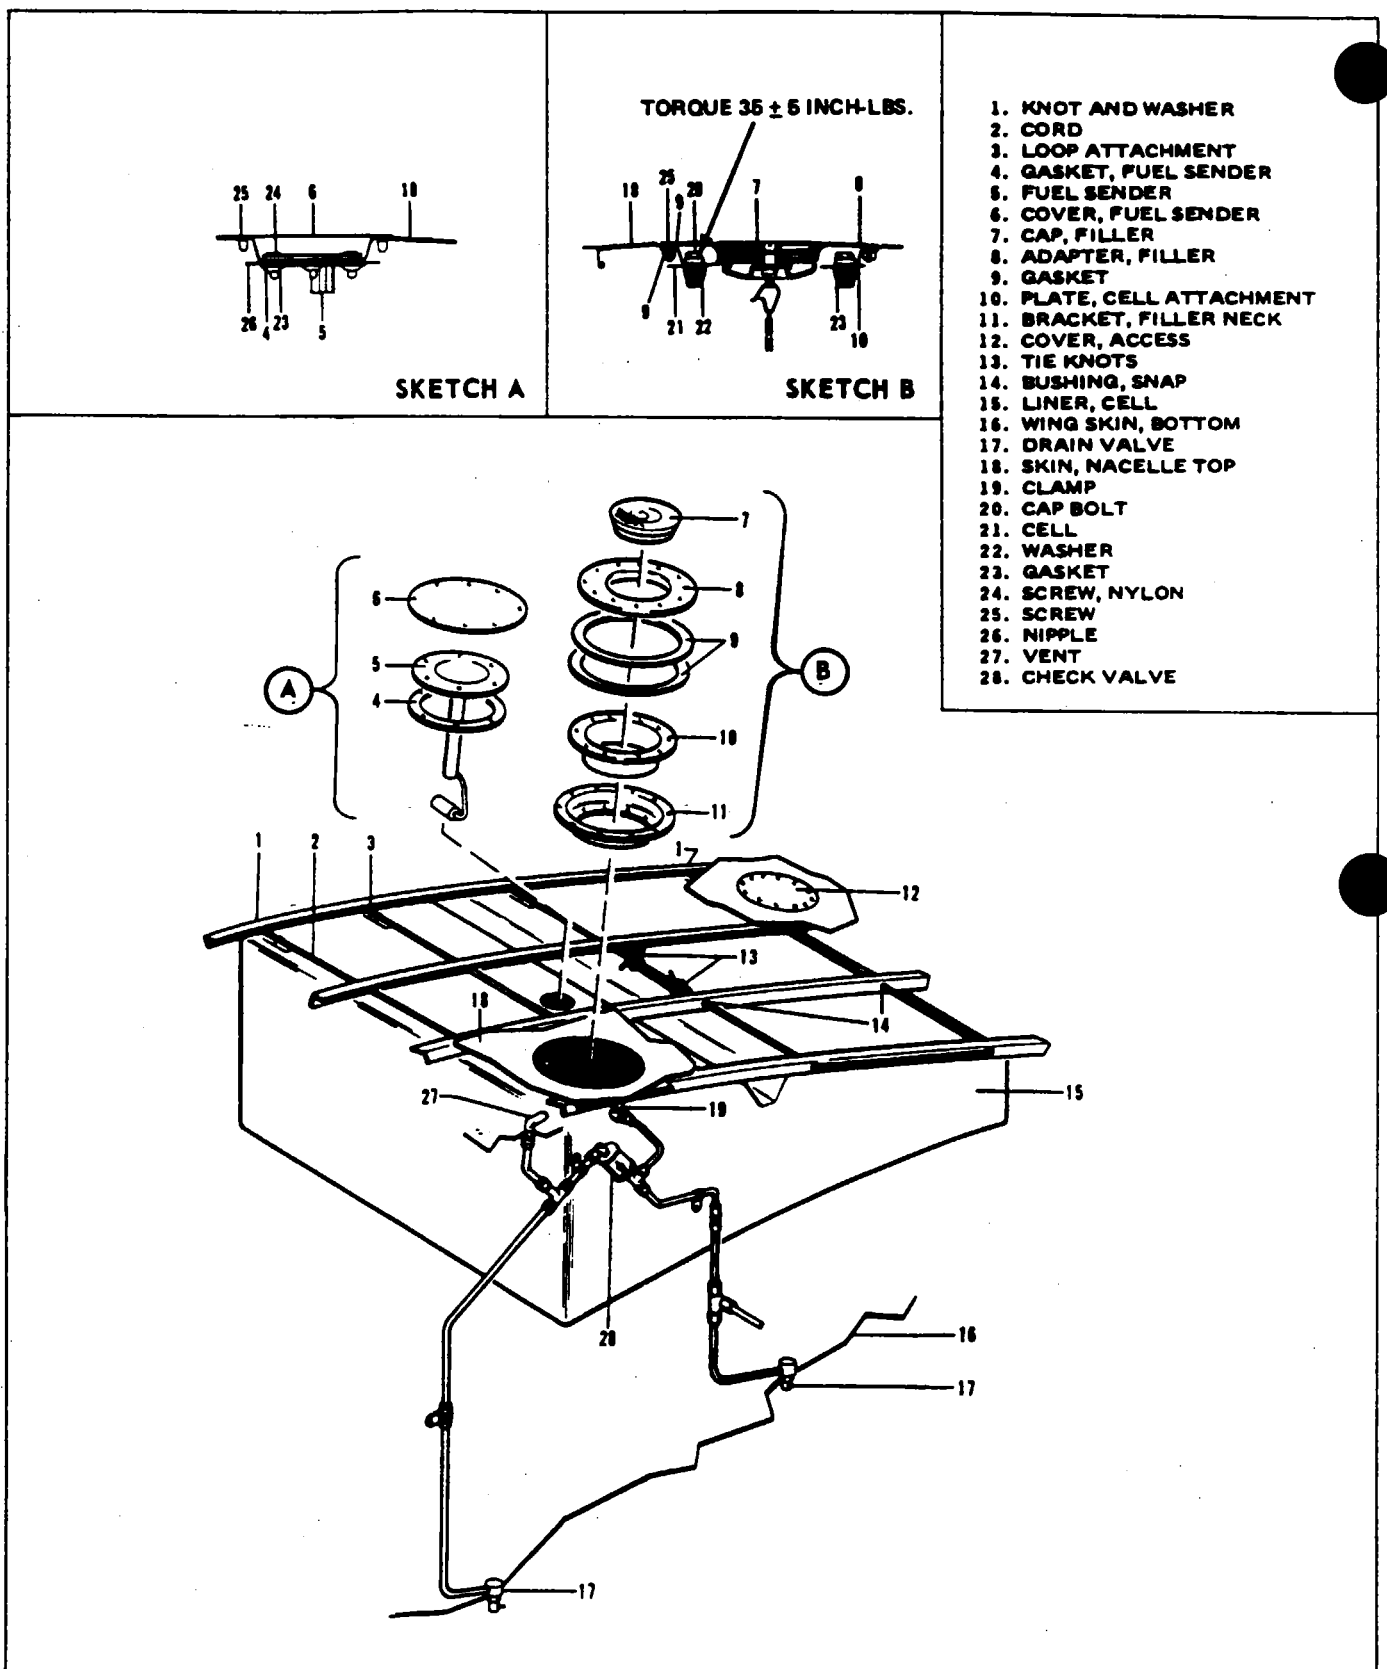

Figure 9-4. Fuel Cell Installation Nacelle
9-6. REMOVAL OF NACELLE FUEL CELL. (Refer to Figure 9-4.)
9-11. INSTALLATION OF NACELLE FUEL CELL. (Refer to Figure 9-4.)
- i. Lay out the nylon cord on the wing to determine the length of cord for each tie. The cords are routed as shown in Figure 9-4. Allow enough extra cord to work with.